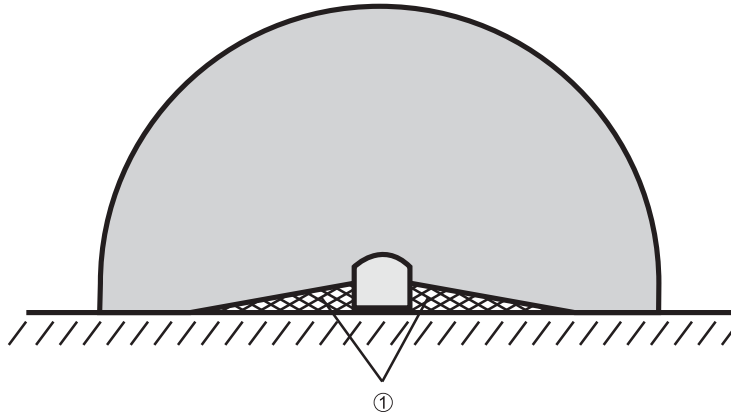

Figure 26: Example of mounting with hard guards
- Design the recess ① to be sufficiently deep enough that it completely covers the area not protected by the safety laser scanner (Figure 26) and such that standing in an unscanned area ② is not possible.